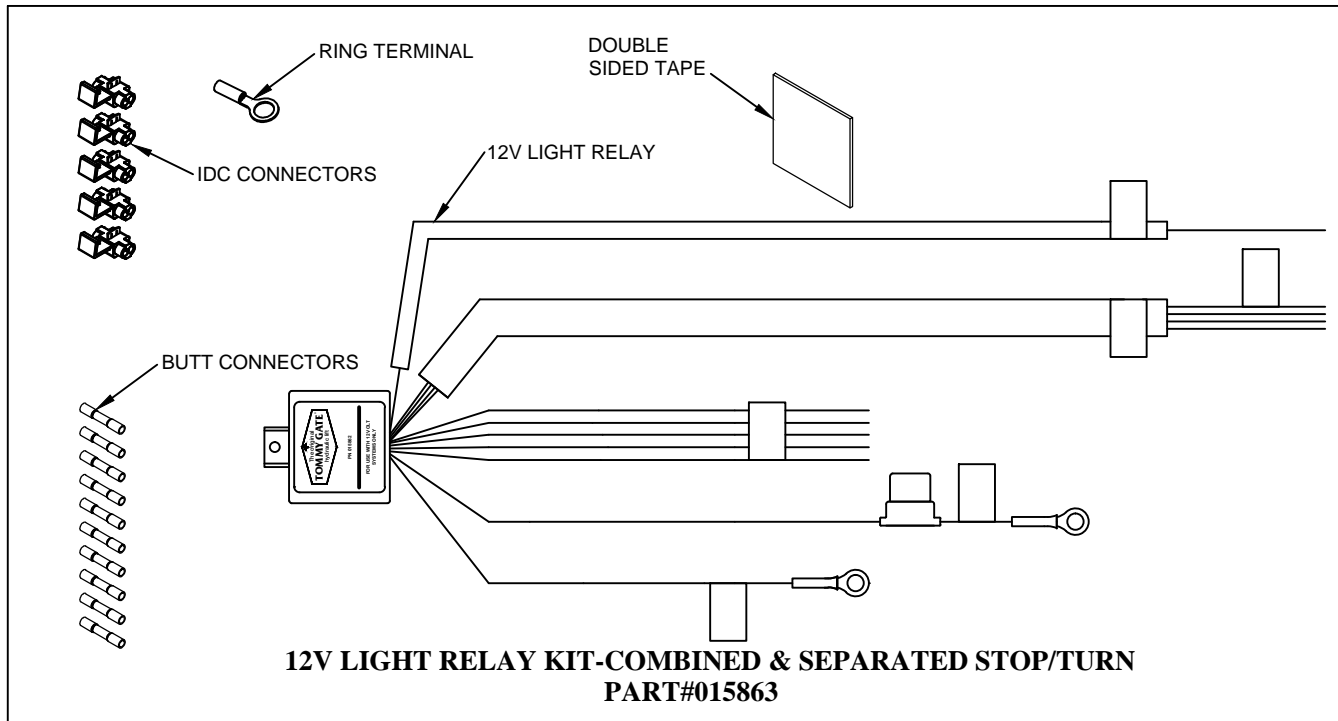

Figure 1: Part identification.
**1. Verify the parts of the 12V Light Relay Kit-Combined & Separated Stop/Turn (Table 1 and Figure 1).**